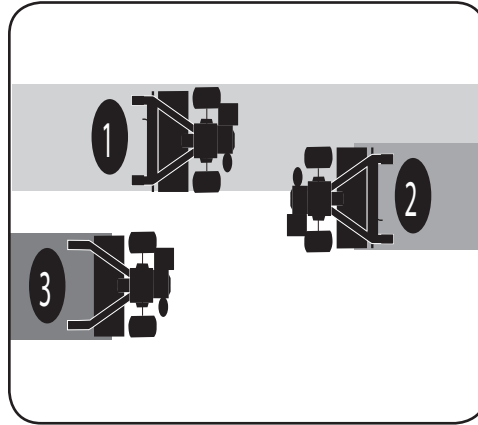

Figure 4-14
- If the garden size will not permit lengthwise and then crosswise tilling, then overlap the first passes by $\frac{1}{2}$ a tiller width, followed by successive passes at $\frac{1}{4}$ width. See Figure 4-14.